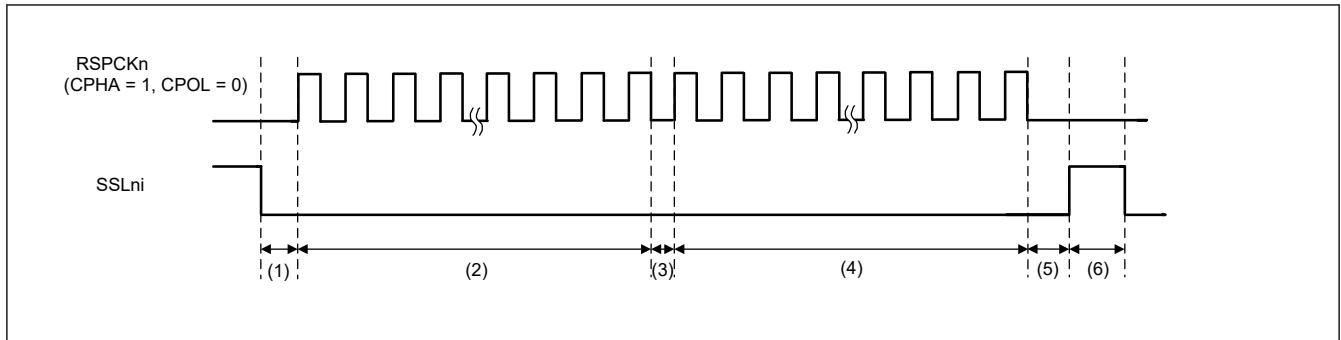

Figure 44.58 Example of Burst Transfer Operation Using SSLKP Bit (BFDS = 1, SPFRF = 0)
Figure 44.58 shows an example of SSLni signal operation when burst transfer is achieved by using the settings of SPCMD0 and SPCMD1. The following describes SPI operations of (1) to (6) shown in Figure 44.58. The SSLni output signal polarity depends on the set SPCR3.SSLnP (n = 0 to 3) value.